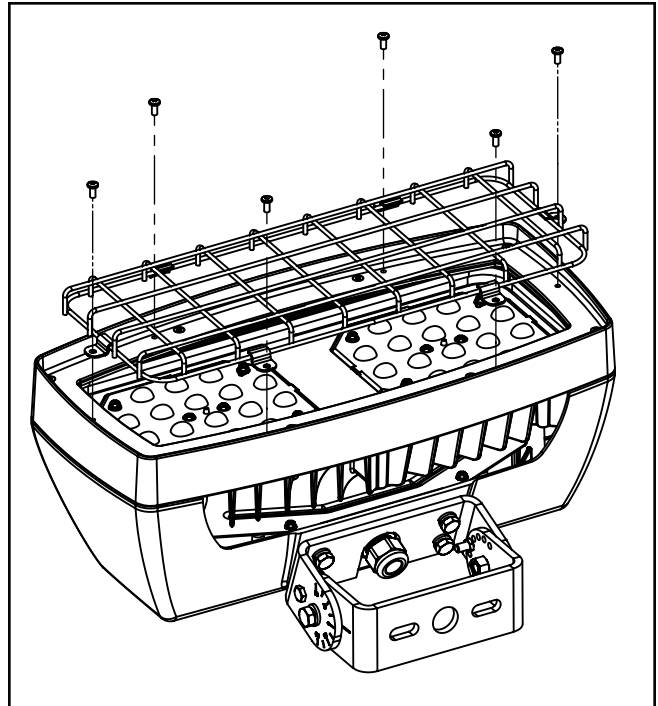

Figure 5.
Wire Guard (Figure 5.)
1. Align wire guard on top of lens frame matching the six existing holes. (Figure 5.)
2. Tighten (6) 8-32 screws to the face of the fixture.